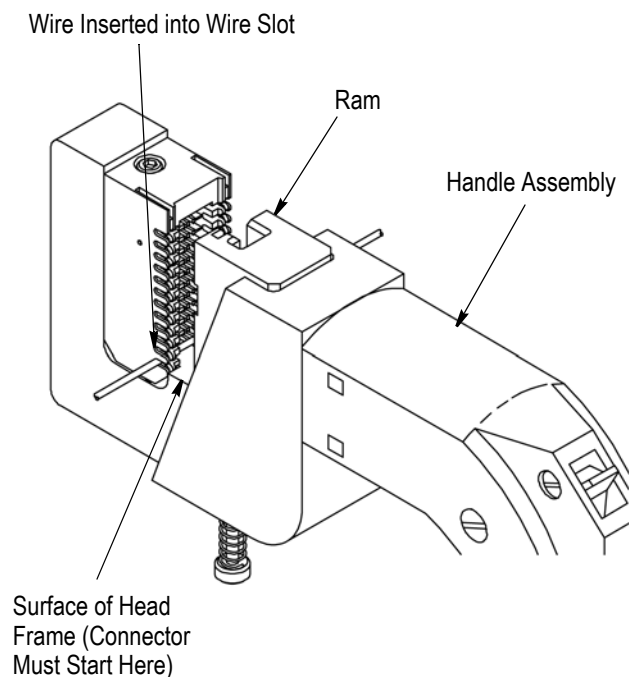

Figure 5
1. Starting with the wire slot closest to the head frame, push one wire into one slot for each contact position of the connector being terminated. See Figure 5.
3. Using a screwdriver (or equivalent), push the connector into the ram until the connector touches the surface of the frame. Refer to Figure 5.